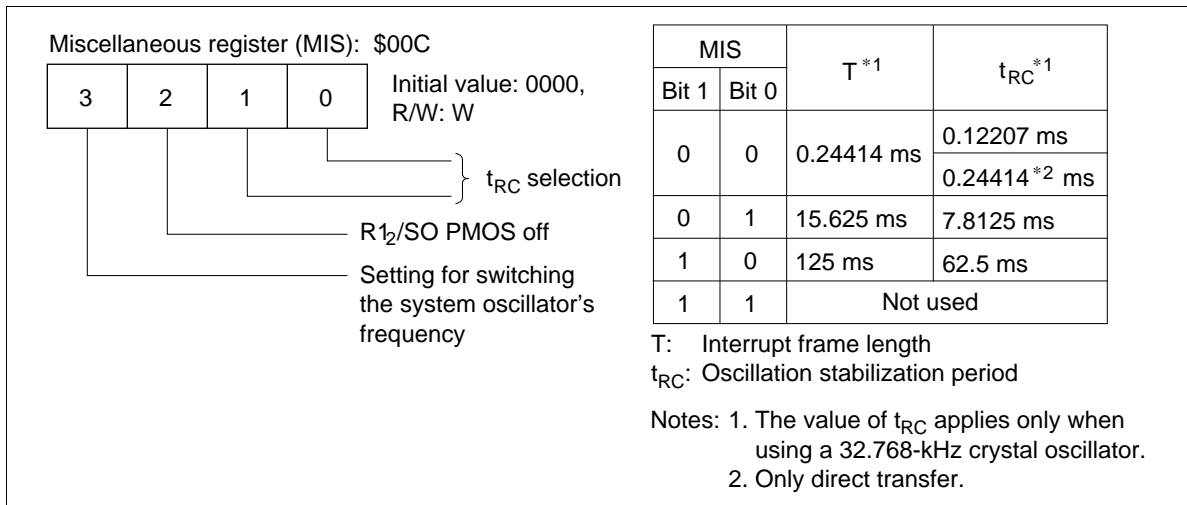

Figure 14 Miscellaneous Register
Interrupt Frame: In watch and subactive modes, timer A and $\overline{\text{INT}}_0$ interrupts are generated in synchronism with the interrupt frame. Three interrupt frame lengths (T) can be selected by the settings of the miscellaneous register, as shown in figure 14.